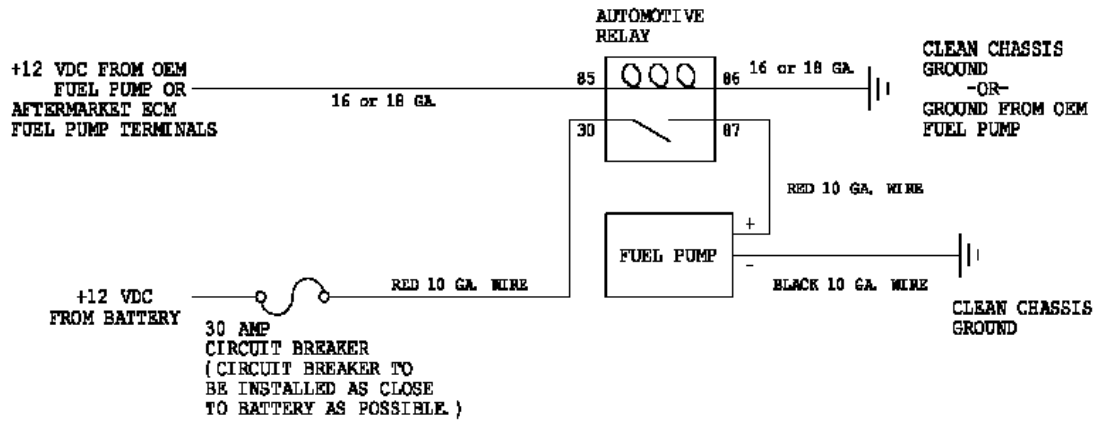

FIGURE 1-12
17. The Aeromotive fuel pump needs its own relay and 12V power wire. The use of Aeromotive fuel pump wiring kit (part # 16301) is recommended. Since the factory Ford fuel pump is pulse modulated you cannot use the factory fuel pump wires to trigger the relay. Find a suitable 12V key on ignition source for the #85 connection on the relay as shown in Figure 1-12.